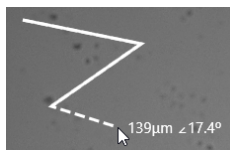

Figure 3-51 Drawing (l), clicking (m) and changing a line (r)
1. Press **LINE** to draw a line, see **Figure 3-51 below**.